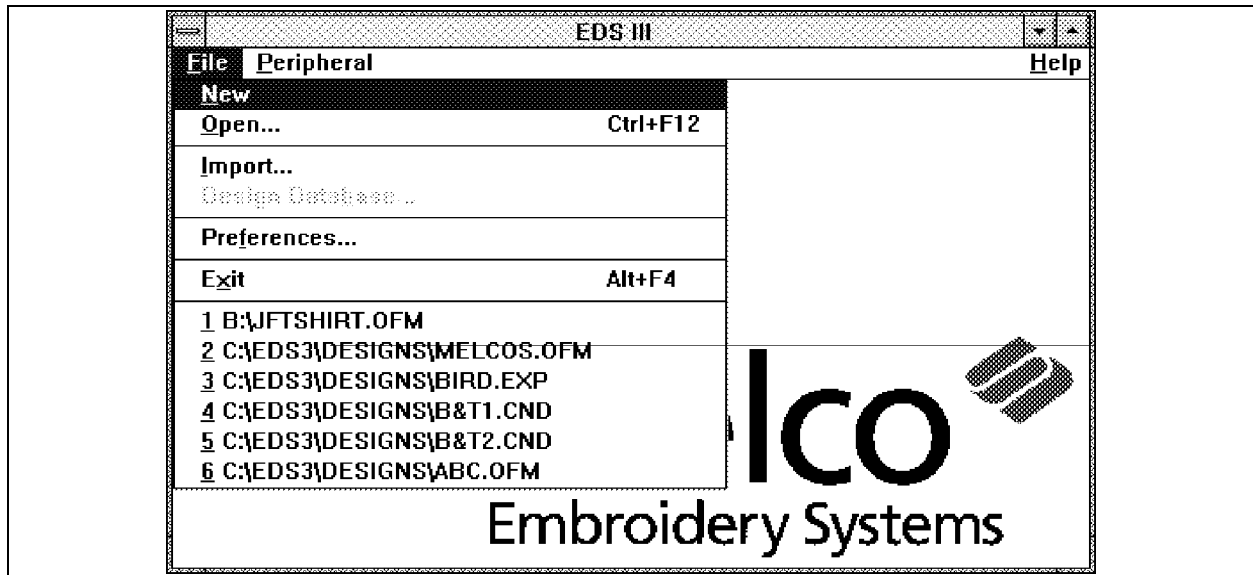

Figure 6-2
2. Click on the New menu item in the drop-down menu that appears (see Figure 6-2).